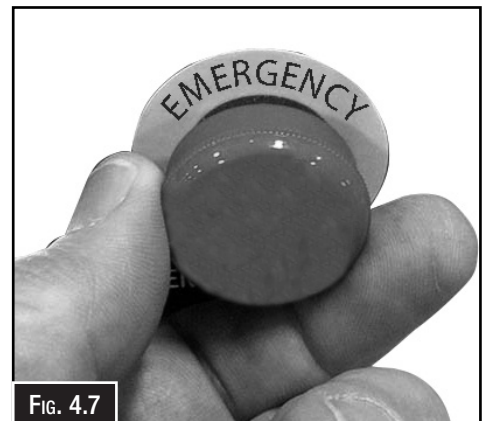

Fig. 4.7
**Testing The Emergency Stop Button (Fig. 4.7)**